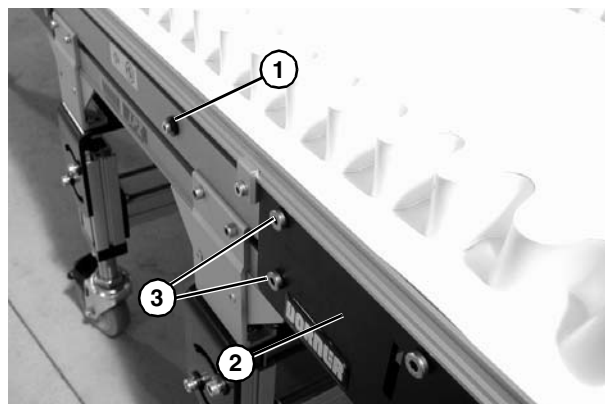
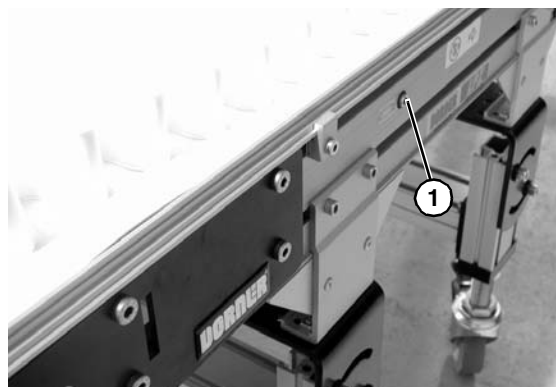

Figure 22
Figure 23
- On tension end of the conveyor, identified by the pinion locking screw (**Figure 22, item 1**), push in head plate assembly (**Figure 22, item 2**): Loosen the pinion locking screw (**Figure 22, item 1**), adjust the pinion torque screw (**Figure 23, item 1**). On both sides of conveyor, loosen the two tail clamp bolts (**Figure 22, item 3**), and push head plate assembly (**Figure 22, item 2**) inward.